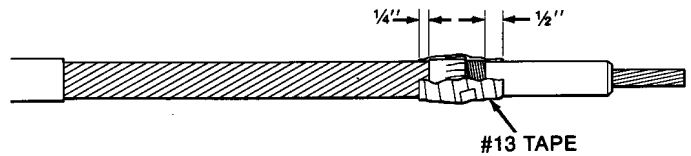

Figure 3
8. Apply two highly elongated half-lapped layers, of Scotch Brand 13 Semi-Conducting Tape over vinyl tape, folded back wire ends, cable semi-con and 1/2" onto cable insulation. Leave a smooth leading edge. Begin and end taping approximately 1/4" on shield wires beyond the vinyl tape (Figure 3).